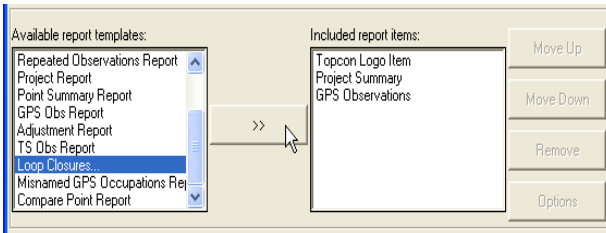

Figure 7-30. Include Items in Report
2. Select the desired item in the *Available report templates* list and click the move right button (>>) to move the item to the *Included report items* list. Continue selecting and moving items until all desired items are included (Figure 7-30).